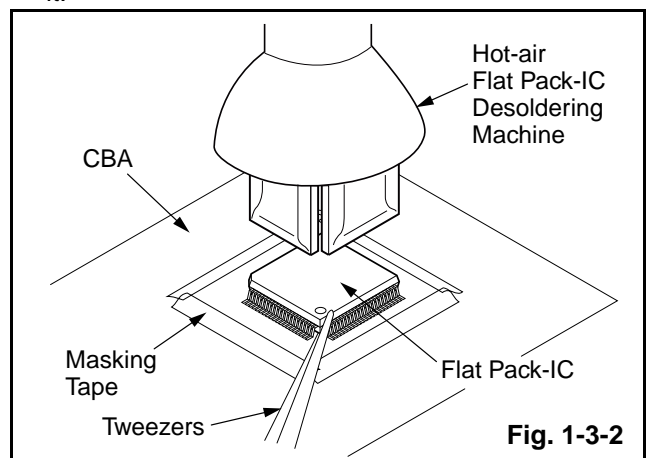

**Fig. 1-3-1**
- (1) Prepare the hot-air flat pack-IC desoldering machine, then apply hot air to the Flat Pack-IC (about 5 to 6 seconds). (Fig. 1-3-1)